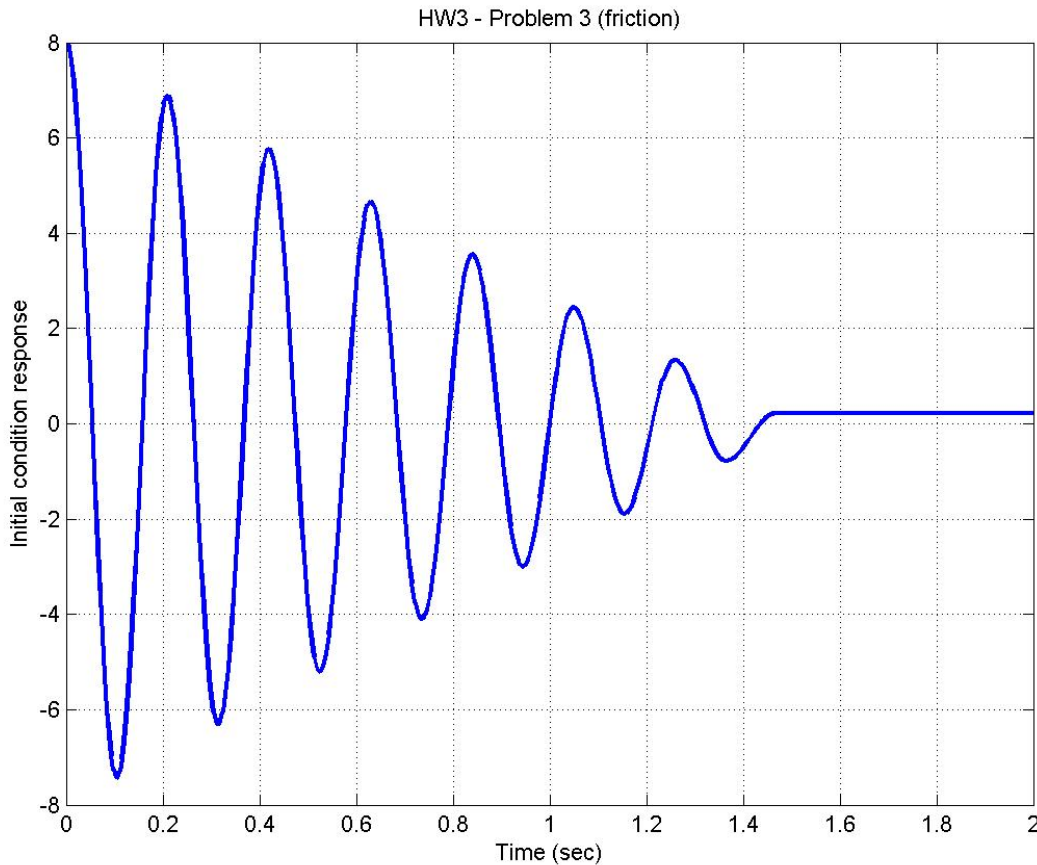

Figure 3.3b – Step response for a system with Coulomb friction.
b) Figure 3.3b also shows the step response of a spring-mass system where  $m=1\text{kg}$  and  $k=900\text{ N/m}$ , except here losses are due to nonlinear friction. The equation of motion here is:
c) Note in Figure 3.3b that the response does NOT come to rest at  $x=0$ . (The final value on the y axis is offset from 0.) **Explain how this is possible. Will the final value be different, given different initial conditions? Why or why not?**